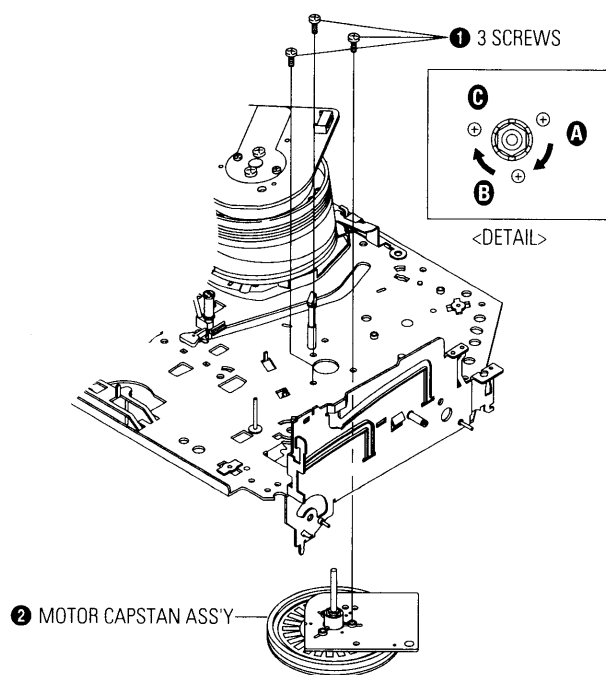

Fig. 4-36 Motor Capstan Ass'y Removal
- 4) Rotate Gear Worm Wheel ❸ counterclockwise using screw driver again up to the state of eject mode and then pick out the tape. (Refer to Fig. 4-36)